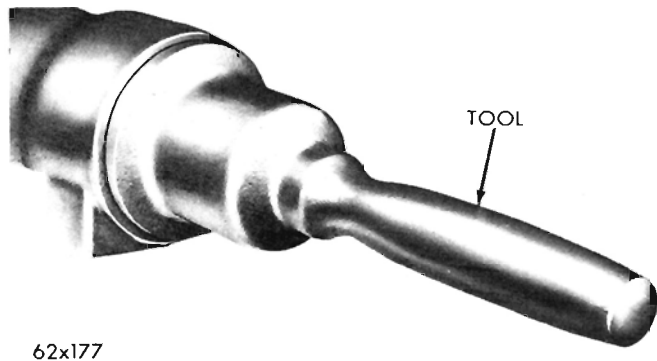

Fig. 47—Installing Output Shaft Oil Seal
(4) To install a new seal, position the seal in opening of extension housing with lip of the seal facing inward. Drive the seal into housing with Tool C-3837 (Fig. 47).
(5) Install the transmission output shaft flange. Install the washer with its three projections toward the flange and the nut with its convoluted surface contacting the washer. Hold the flange with Tool C-3281, and tighten the nut to 175 foot-pounds torque.
(6) Connect the propeller shaft to the transmission flange.
(3) To install a new seal, position seal in the opening of the extension housing and drive it into the housing with Tool C-3972 (Fig. 47).
(4) Carefully guide the front universal joint yoke into the extension housing and on the output shaft splines. Then connect the propeller shaft to the rear axle pinion shaft yoke.
(4) Place a new seal in the opening of the extension housing (lip of seal facing inward). Using Tool C-3837, drive the seal into the housing until tool bottoms (Fig. 47).